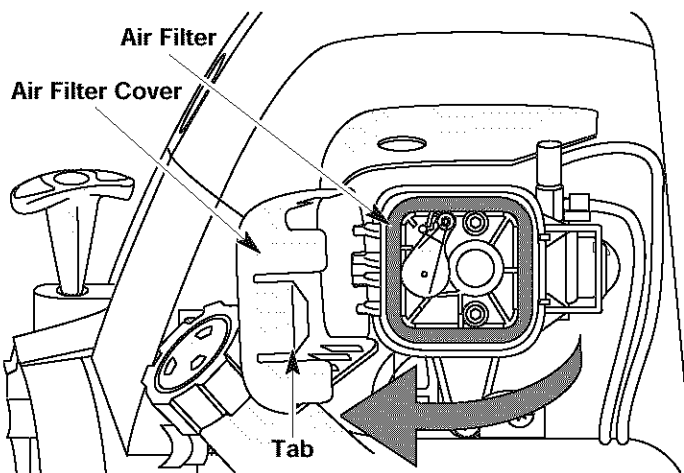

Fig. 35
1. Open the air filter cover. Push the tab on the right side of the cover inward. Then pull the air filter cover out and to the left (Fig. 35).
2. Remove the air filter (Fig. 35).